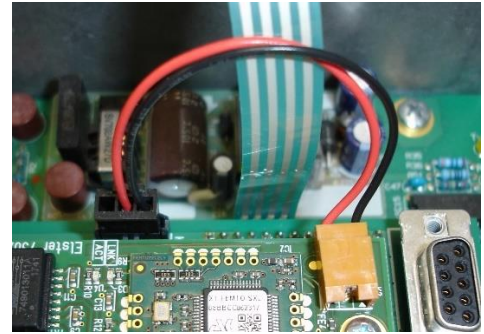

Fig. 19: Power supply to the Ethernet interface
Since the FE260 always has a mains supply and the Ethernet interface is supplied by the FE260 (⇒ see Fig. 19), power supply via the network (PoE (Power over Ethernet) mode) is not necessary in this case.
- The Ethernet interface is supplied with power by the FE260. A two-core cable was installed on the Ethernet module at the factory for this purpose (⇒ see Fig. 19).